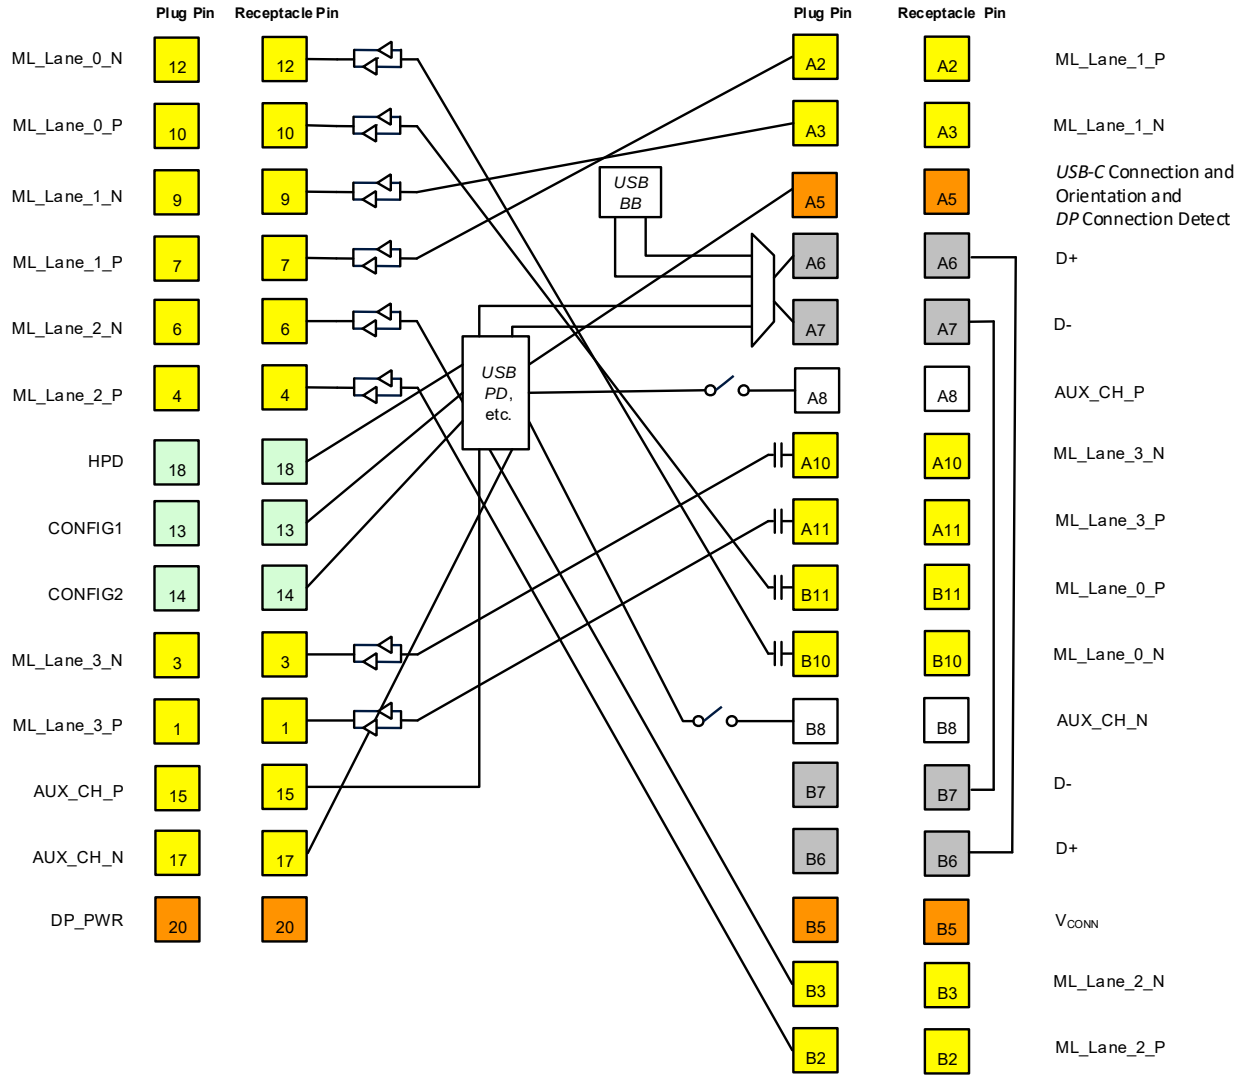

Figure 4-35: Scenario 5b Full-size DP Adapter Wiring – Normal Plug Orientation
- Figure 4-35 illustrates this use for a full-size *DP* receptacle when the *USB-C* plug is inserted in normal orientation